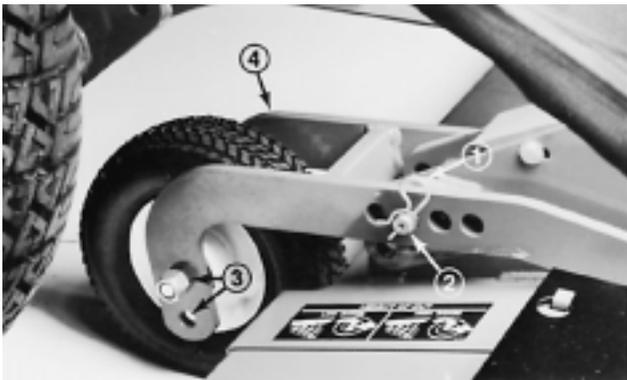
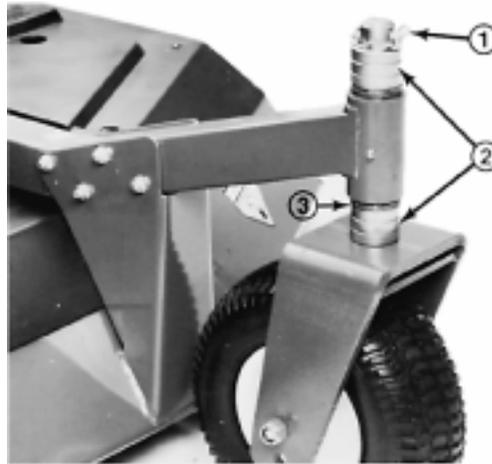

Figure 9
Figure 10
3. On the front cutting unit, remove the hairpin cotter and clevis pins from the rear castor pivot arms (Fig. 9). Align the pivot arm holes with selected height-of-cut bracket holes in the deck frames, insert clevis pins and install the hairpin cotters (Fig. 9).
4. On all remaining castor wheel assemblies, remove lynch pin from castor fork shafts (Fig. 10). Remove castor fork shaft and spacer assembly from the castor arm (Fig. 10). Place spacers onto castor spindle to desired height-of-cut setting and install castor fork shaft in arm (Fig. 9). Install remaining spacers onto shaft and secure assemblies with the lynch pin (Fig.10).